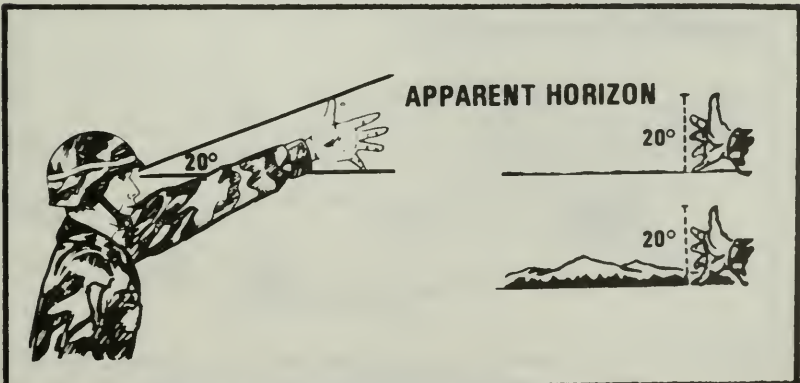

Figure 7. Estimating 20 degrees.
b. One way to estimate 20 degrees is to extend one hand straight in front of you with fingers fully spread. Point the little finger at the ground and your thumb will be at approximately 20 degrees. The tip of your thumb is the upper search limit (Figure 7).